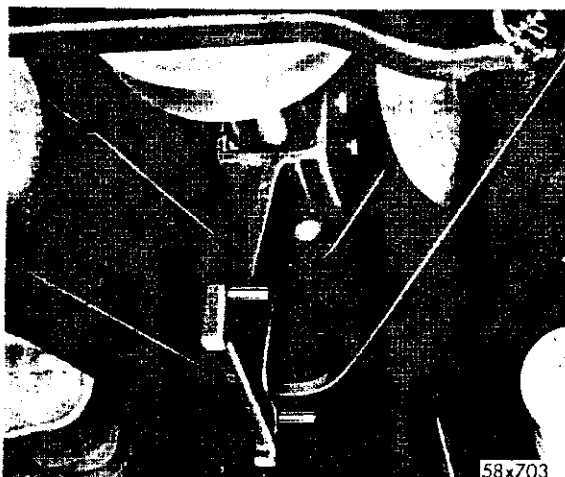

Fig. 11—Gauge Adapter Installed (Convertible Frame Shown)
(2) Install the gauge adapter on the front propeller shaft near the front universal joint (Fig. 11).